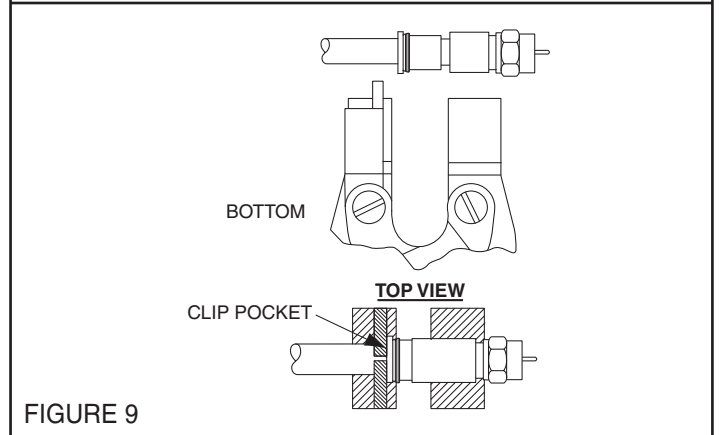

FIGURE 9
**(B) Using SNSUTL tool:** align top of tool with the connector "U Groove", and push the connector and cable into the tool as shown. The cable should be held in place by the bottom of the tool, and the plastic sleeve should be seated into the "Clip Pocket" (see Figure 9).